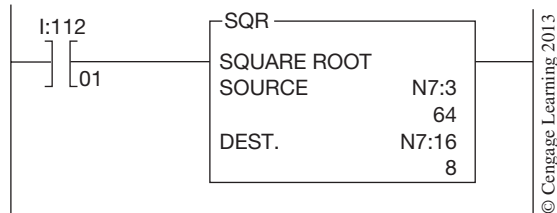

Figure 14–12 Example of the Square Root (SQR) Instruction
When the logic that precedes the SQR instruction is true, the square root of the source value is transferred into the destination word. In the example in Figure 14–12, the square root of the source address, N7:3 (64), which is 8, is placed into destination word 16 of the N7 file.